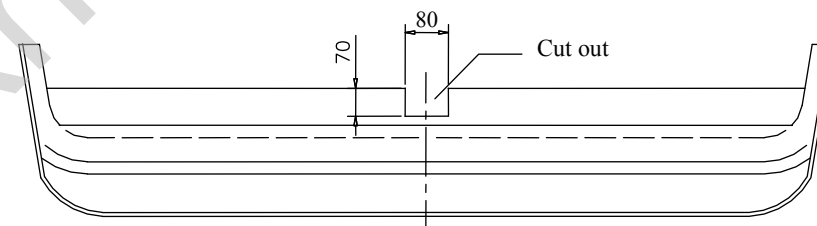

Fig. 2
3. On the left and right side put to chassis members brackets (pos. 4 and 5) in this way so elongated holes tally with plastic pin protruding from floor and next through holes (pos. A, B, C) drill holes $\varnothing 1$ mm.
4. Bracket (pos. 5) screw through hole (pos. C) using washers (pos. 9) and bolts M10x30mm (pos.8).
5. Put main bar of towbar (pos. 1) to mounted brackets (pos. 4 and 5), through holes (pos. A and B), washers and plates (pos. 6) screw with chassis member using bolts M10x50mm (pos. 7) from towbar accessories.
6. Through holes (pos. D) drill holes $\varnothing 1$ mm and next screw with bolts M10x30mm – pos. 8 (use washers $\varnothing 35 \times \varnothing 12 \times 3$ mm – pos. 9).
7. Fix body of the automat and place tow-ball according to supplied instruction. Note! Remember to place socket plate (pos. 3) as shown on the drawing 1.
9. In central part of the bumper cut out fragment 70x80mm as shown in the fig. 2.